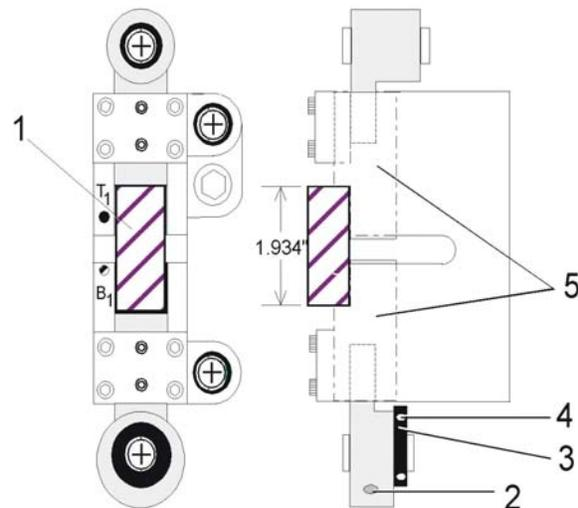

Figure 21 Die Block Assembly Slide Travel
2. Insert the provided 1.934" gauge block (Figure 21, Item 1) while manually indexing the machine until the die block slides (Item 5) are fully closed.